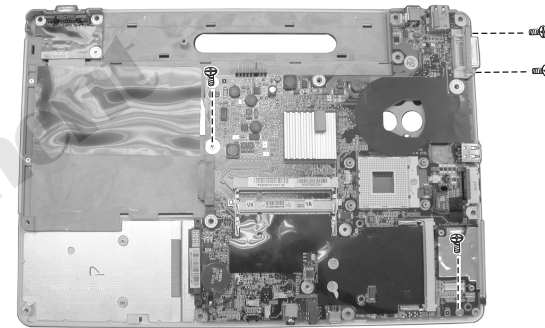

Figure 2-29 Free the system board
5. Remove the four screws fastening the system board, then free the system board. (Figure 2-29)